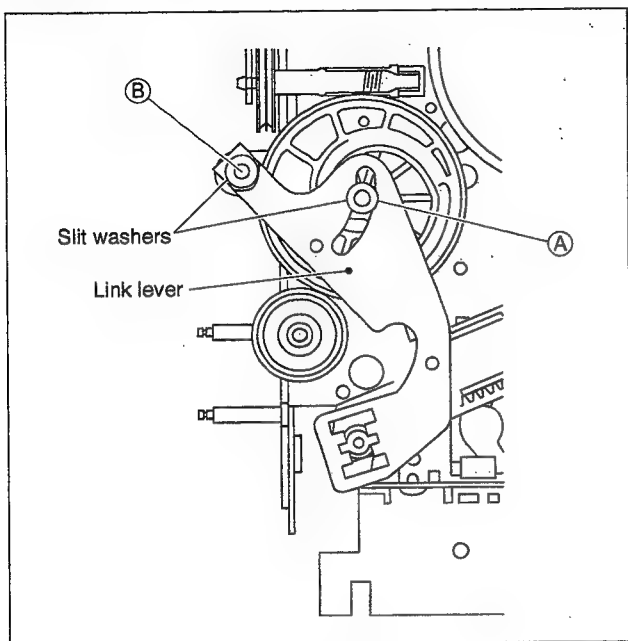

Fig. 2-3-6
- (4) Turn the link lever clockwise and mount it on the control cam center shaft (A) and the control cam left-side shaft (B). (See Fig.2-3-6).
- (5) Fasten the slit washers at two points (A) and (B).